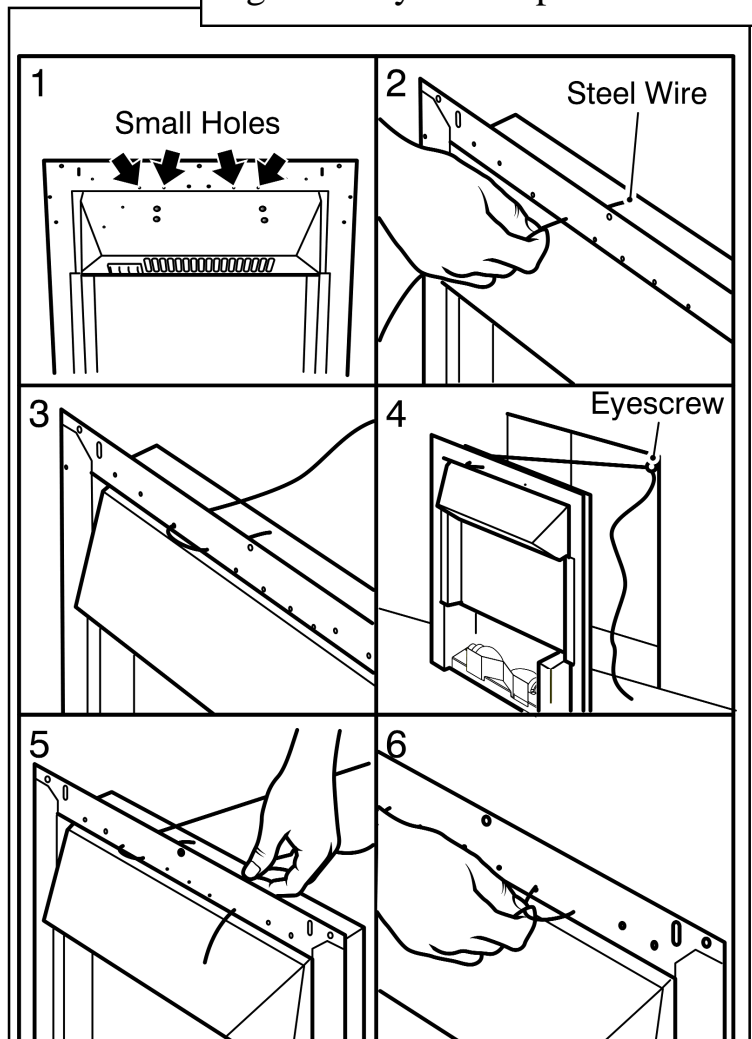

Figure 6. Steel wire fixing (Detail at top of heater may differ from that shown)
7. At the top of the heater there are four small holes, two each side of the heater (See figure 6-Item 1). From the front of the heater, thread about 50mm ( 2 inches) of the steel wire into the inside small hole on the left side of the heater (See figure 6 - item 2).
8. Thread the other end of the wire through the remaining small hole on the left hand side of the heater. Continue to push the wire through this hole until there is only a small loop of wire at the front of the heater (See figure 6 - item 3).
9. At the back of the heater there will be a long piece and a short piece of wire coming through the two holes. Hold the short piece and give the long piece a gentle tug. This will secure the steel wire. Take the long piece and thread this through the eyescrew in the back of the fireplace opening (See figure 6 - item 4).
10. From the back of the heater thread the long piece of steel wire through the outer small hole on the right hand side of the heater (See figure 6 - item 5).
11. Locate the heater in the fireplace opening, then from the front of the heater, gently pull the steel wire on the right hand side to gather up the excess until the heater is secure. Thread the wire through the remaining small hole to lock the wire and heater in place (See figure 6 - item 6).